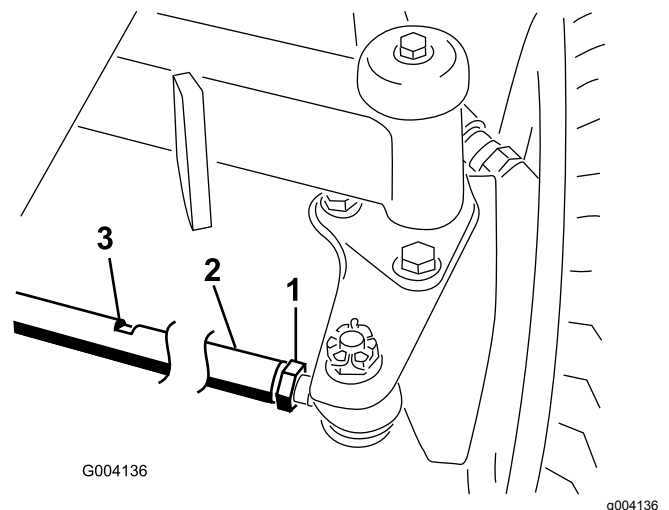

Figure 80
2. Loosen the jam nut on each end of the tie rod (Figure 80).